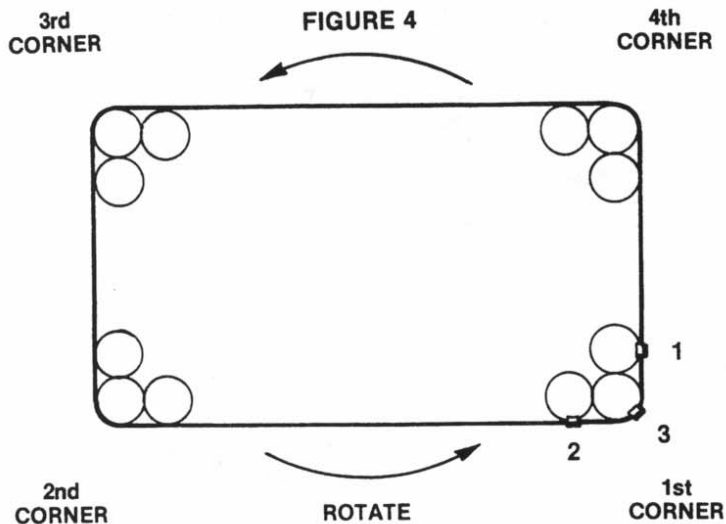

FIGURE 4
5. Follow this clipping procedure to assure the proper border wire position to maintain a square innerspring assembly (FIGURE 4).
B. Follow FIGURE 4, which numerically illustrates the sequence to clip the coils at each corner.